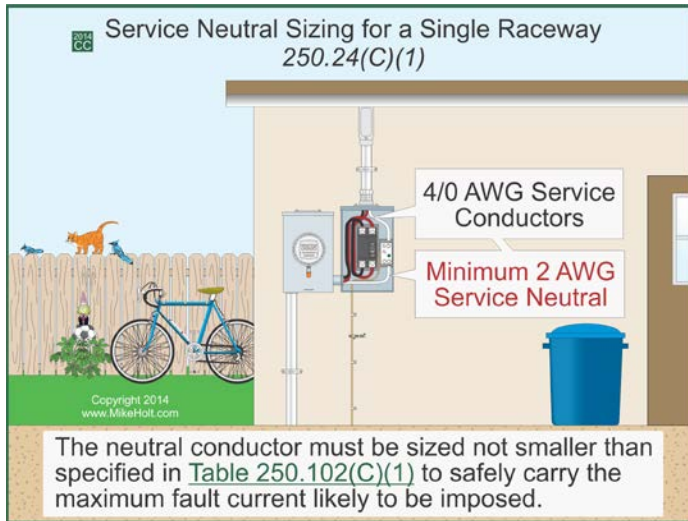

Figure 250-56
(1) Single Raceway. Because the service neutral conductor serves as the effective ground-fault current path to the source for ground faults, the neutral conductor must be sized so it can safely carry the maximum fault current likely to be imposed on it [110.10 and 250.4(A)(5)]. This is accomplished by sizing the neutral conductor not smaller than specified in Table 250.102(C)(1), based on the cross-sectional area of the largest ungrounded service conductor. Figure 250-56